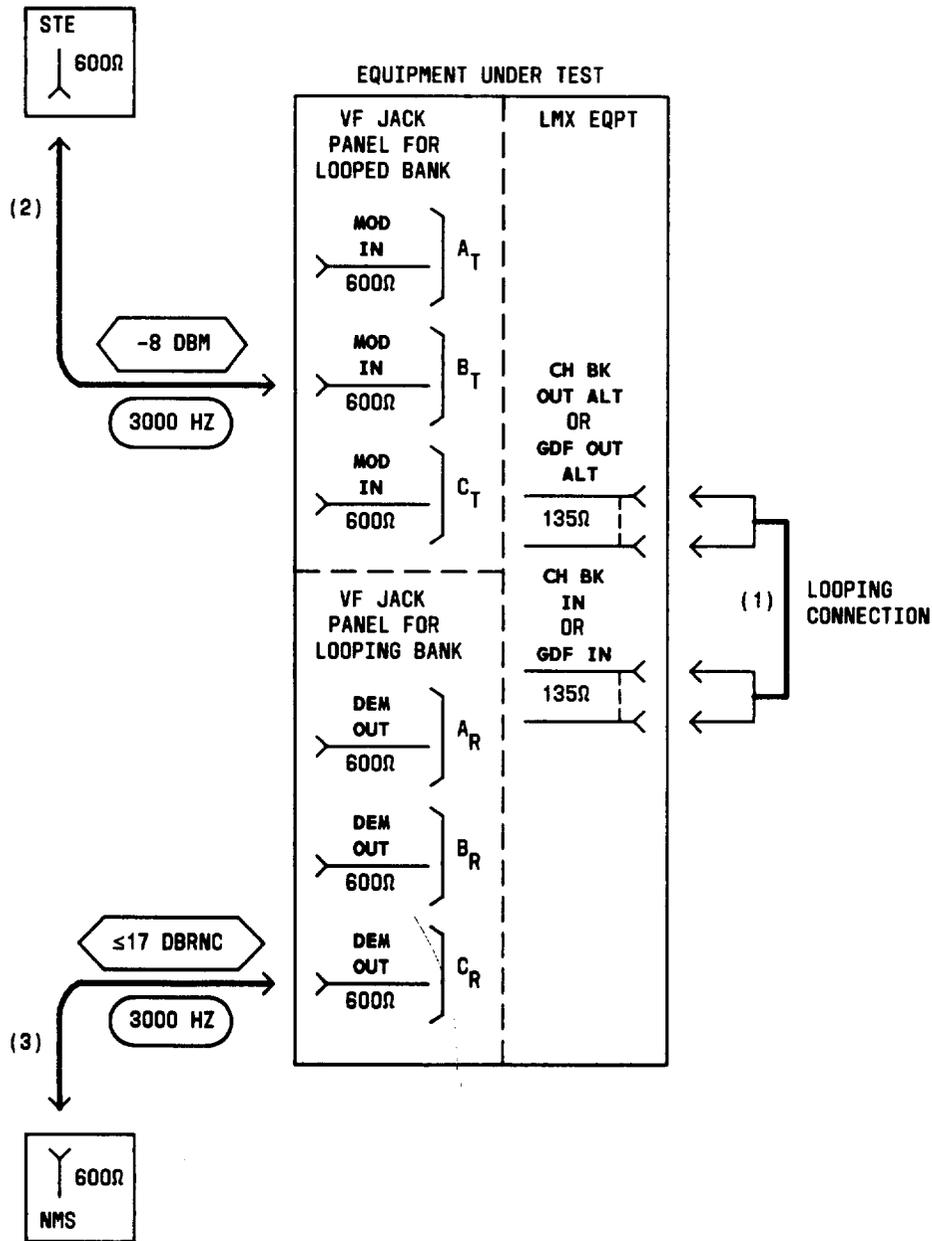

Fig. 24—Patching Diagram—Crosstalk Test—Unequal-Level Looping—Upper Adjacent Channel (3000 Hz)
- 18 Connect the STE to the MOD IN jack for Test A in *looped*-bank Channel  $B_T$  [Table K and patch (2), Fig. 24].
- 19 Connect the NMS to the DEM OUT jack for Test A in *looping*-bank Channel  $A_R$ , [Table K and patch (3), Fig. 24].
- 23 Remove patches (2) and (3), Fig. 24.